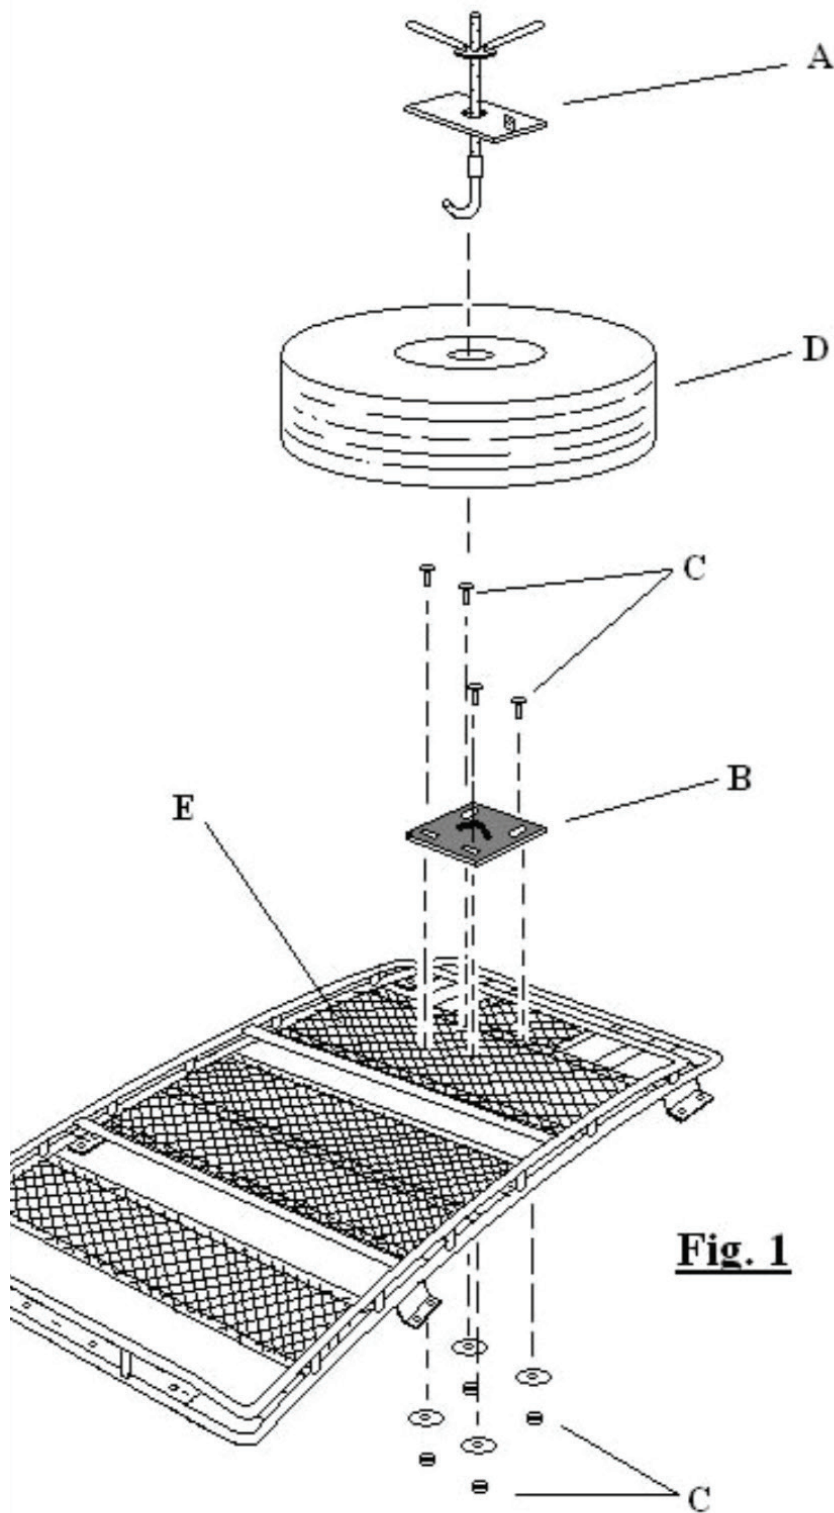
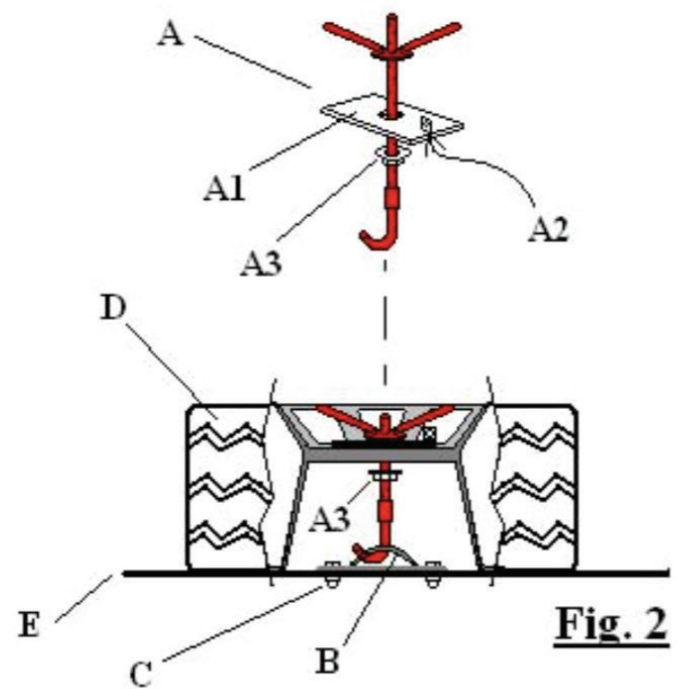

Fig. 1
Fig. 2
- 3- Refer to page 3 Fig. 1 and Fig. 2 and remove base plate (B) from your hardware kit and attach to an area on your roof rack deck (E) where the spare tire is expected to sit without any interference from surrounding obstacles such as the roof rack boarder frame, cross bar or cargo. Use the 3/8" x 1" carriage bolts, washers and nuts (C) supplied in Bag #1 of your hardware kit to attach base plate (B) to roof rack deck as shown in Fig. 1 and Fig. 2.
- 4- Refer to page 3 Fig. 1 and Fig. 2 place the center of the spare tire with the outside of the rim facing up as shown in Fig. 2. Remove the Tie down hook assembly (A) from your hardware kit and unscrew wing nut to the top of the threaded portion of the hook assembly. Place the "J" hook portion of the Tie down assembly (A) into the spare tire as shown in Fig. 2 and slip hook end under the loop of the Base plate (B). Drop and center pressure plate (A1) over the spare tire rim as shown in Fig. 2. Position nut and washer (A3) so that they sit below pressure plate (A1) approximately 1/2" when Plate (A1) is sitting flush on top of rim. This will prevent over bending of plate (A1) or roof rack mesh (E) when wing nut is fully tightened down to secure spare tire in place. Hold up threaded hook portion of assembly (A) while securing wing nut. This will prevent the "J" end of the hook from slipping out from under the loop on Base plate (B). Tighten down wing nut until the spare tire is seated firmly and securely on the roof rack and against nut and washer (A3). If needed adjust nut and washer (A3) up or down to achieve a secure fit of the spare tire on the roof rack.